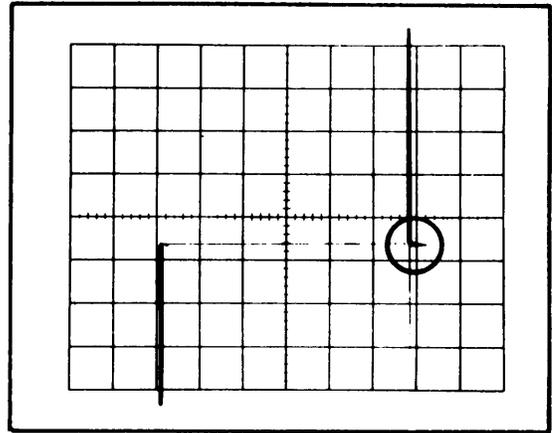

Fig. 5-4. Typical CRT display showing correct adjustment of horizontal compensation.
- h. Check—For optimum square corner (see Fig. 5-4).